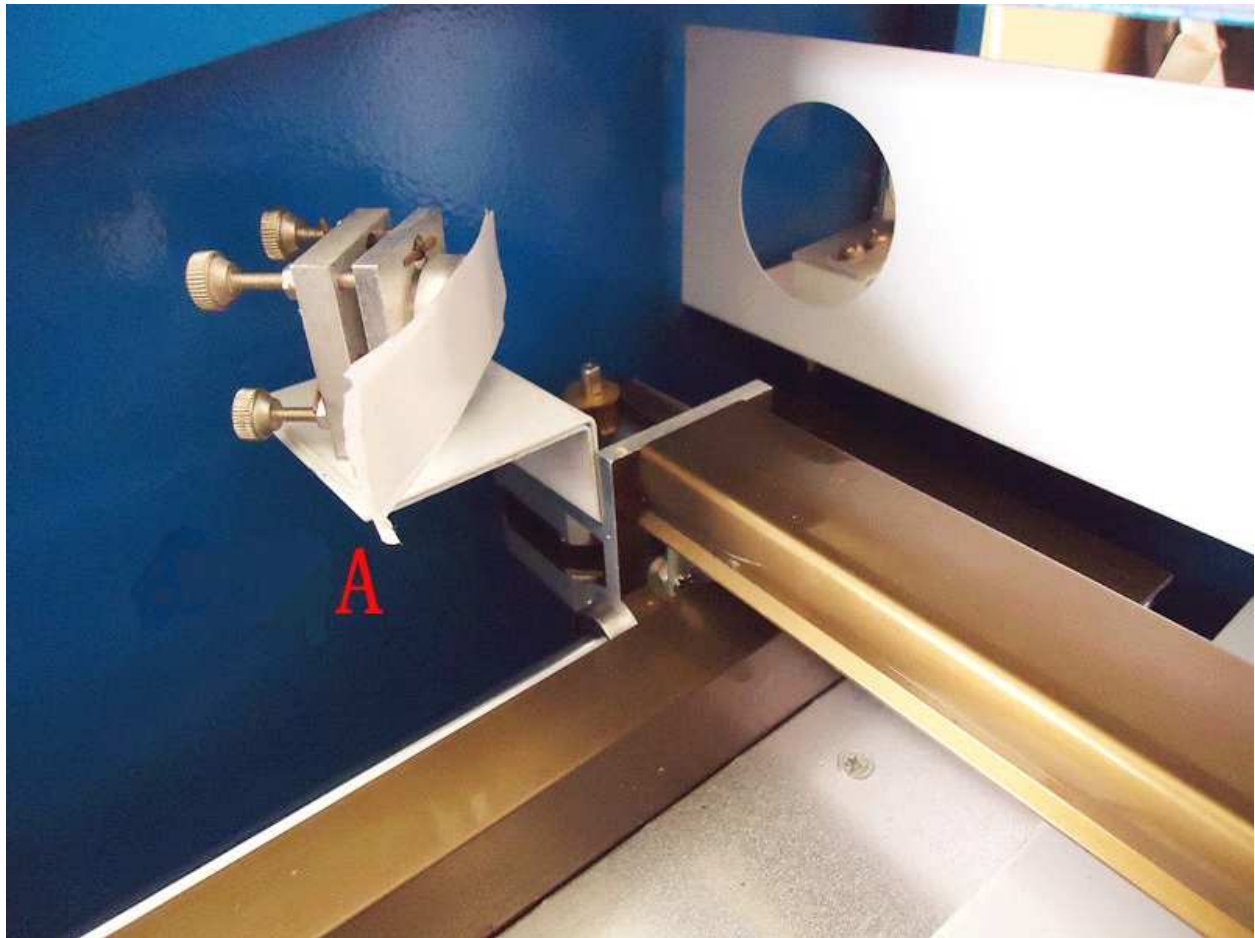

Figure 6
Step 3: Next, go ahead and do the same procedure for mirror #2. Place 4 layers of tape onto mirror #2 and p[osition the X-beam to position A nearest to the laser tube. Momentarily push the test switch to get a burn spot on the tape. To avoid being burnt from a misaligned mirror please place a piece of cardboard in front of mirror #2, to get the general position of the laser spot. The laser spot should also be near the center of the mirror. Figure 6 is showing the tape on mirror #2.